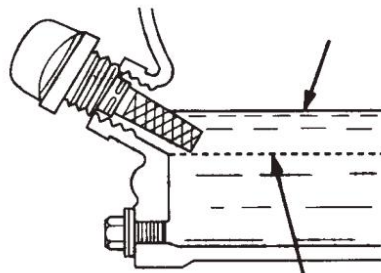

FIG.3
7.2.4 If the oil level is low (FIG. 3), fill to the edge of the oil filler hole with the recommended with SAE10W-30 4 stroke oil. Maximum oil capacity is 400 cc.